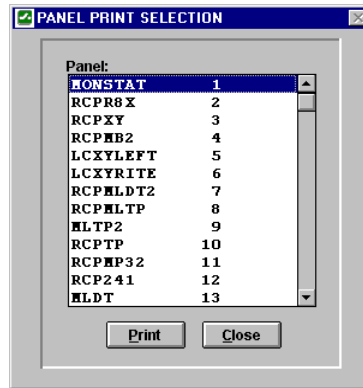

Figure 2 Panel Print Selection Window
3. **Print Select Panels** to display the PANEL PRINT SELECTION window (Figure 2) to print configuration data for selected panels.